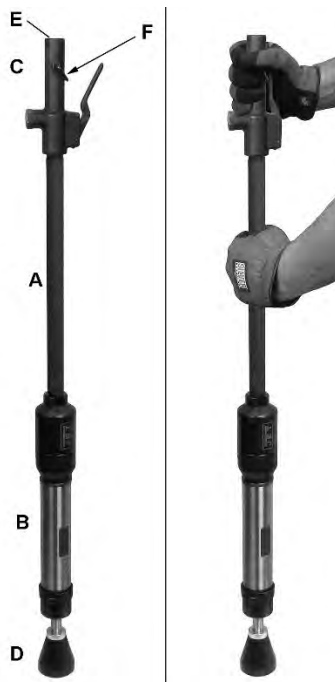

Figure 1
To assemble the sand rammer (Figure 1):
1. Remove protective cap from air inlet (Figure 1). If an in-line oiler is not being used, add 4 or 5 drops of air tool oil (not included) into the air inlet.
2. Blow out air line to remove any dirt or moisture, then connect air supply to threaded inlet on top of handle (F). Set air pressure to 90 psi.
4. Position hands as shown in Figure 1, with palm against on/off lever, and other hand on pipe (floor model) or cylinder (bench model).